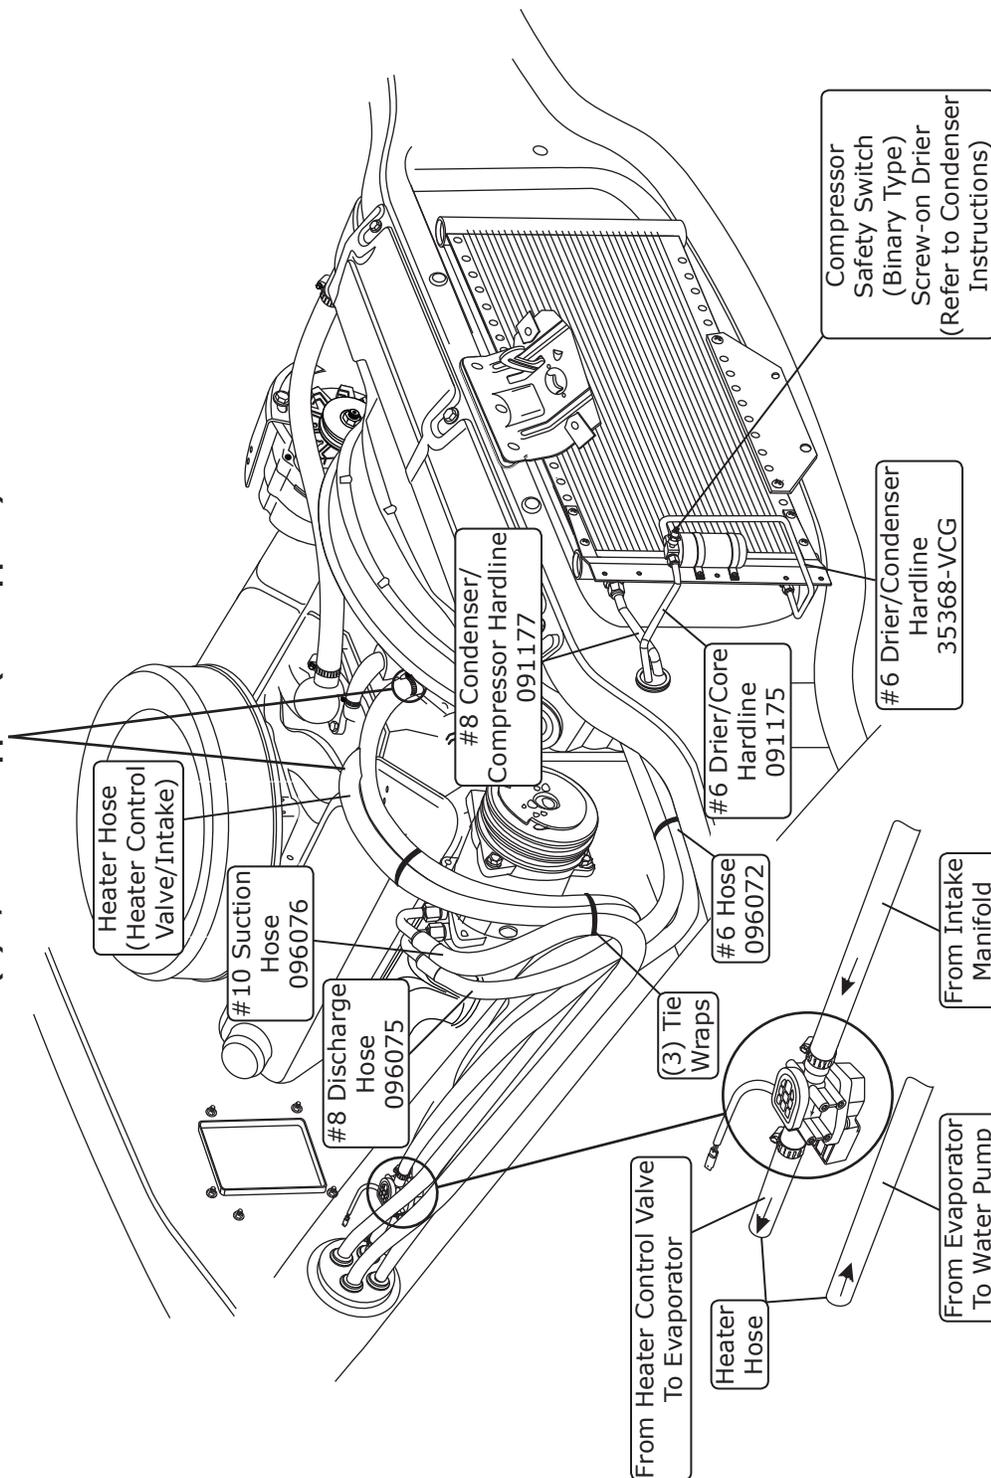
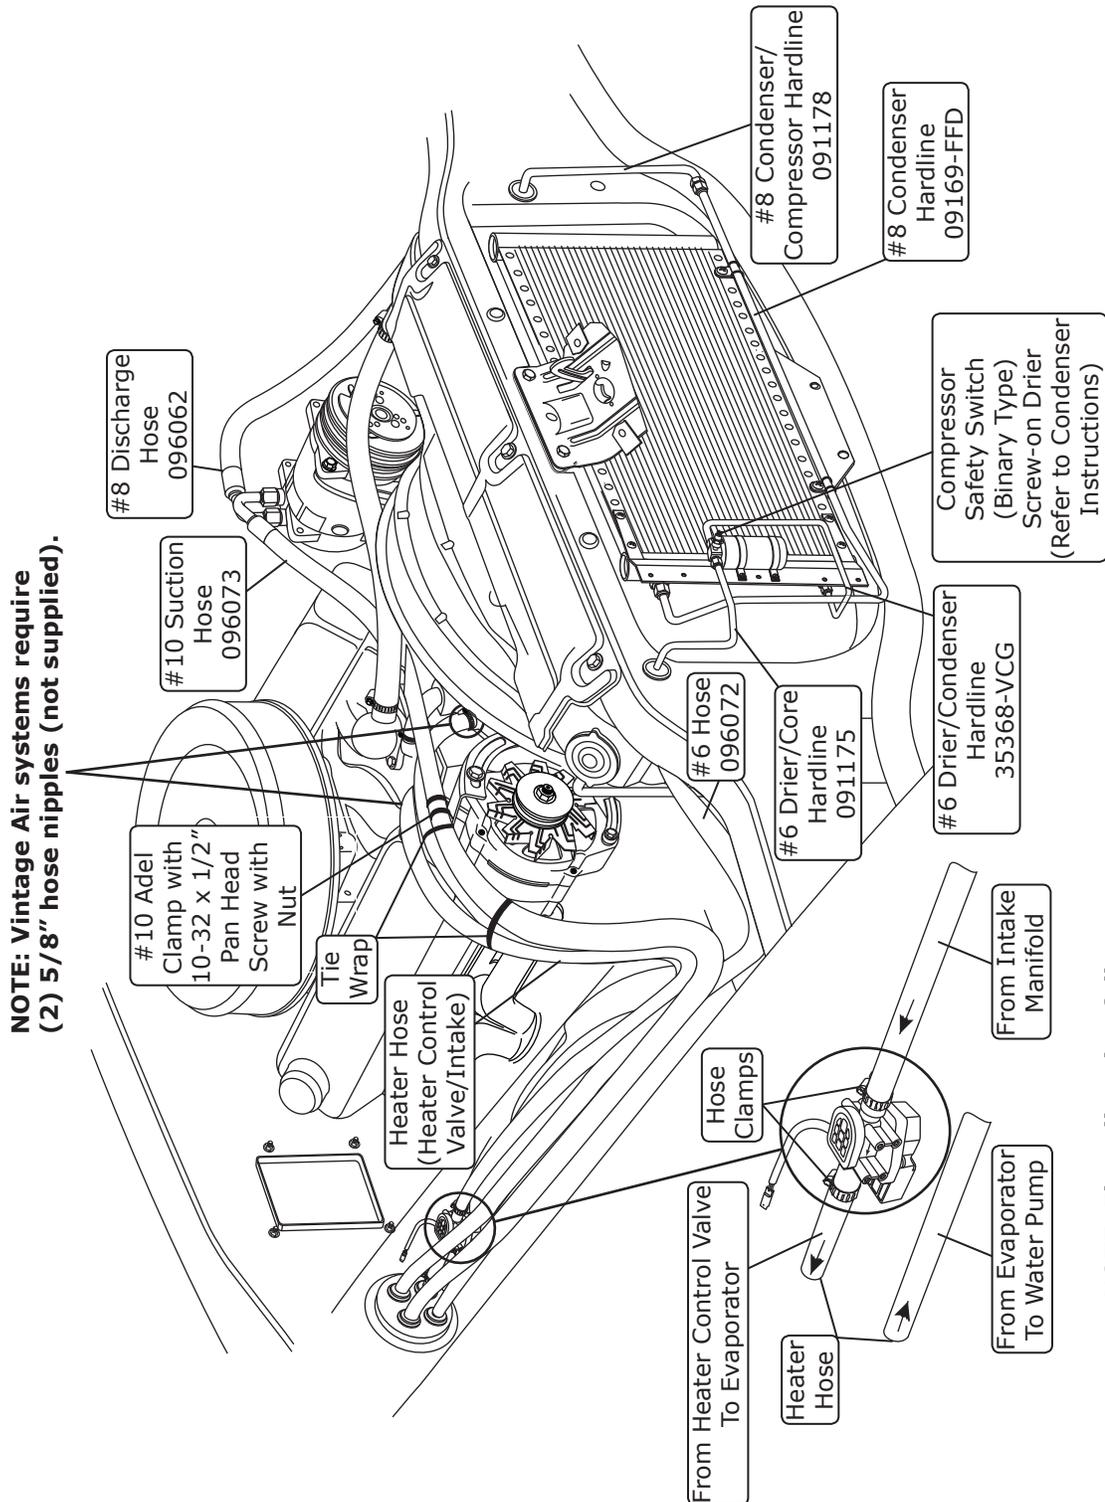

Figure 16
Figure 16a
1. Locate the #8 compressor A/C hose. Lubricate (2) #8 O-rings (See Figure 15, above) and connect the 135° female fitting with 134a service port to the #8 discharge port on the compressor. Then route the straight female fitting to the #8 condenser hardline coming through the core support (See Figure 16, Page 15, and Figure 16a, Page 16). Tighten each fitting connection as shown in Figure 15, above.
2. Locate the #10 compressor A/C hose. Lubricate (2) #10 O-rings (See Figure 15, above) and connect the #10 135° female fitting with 134a service port to the #10 suction port on the compressor. Then route the 90° female fitting to the #10 fitting on the evaporator (See Figure 11, Page 12, Figure 16, Page 15, and Figure 16a, Page 16). Tighten each fitting connection as shown in Figure 15, above.
3. Locate the #6 evaporator A/C hose. Lubricate (2) #6 O-rings (See Figure 15, above) and connect the straight female fitting to the #6 hardline coming through the core support from the drier. Then route the 90° female fitting to the #6 fitting on the evaporator (See Figure 11, Page 12, Figure 16, Page 15, and Figure 16a, Page 16). Tighten each fitting connection as shown in Figure 15, above.
1. Route a piece of heater hose from the water pump to the top heater fitting of heater core as shown in Figure 11, Page 12, and Figure 16, below. Secure using hose clamps.
2. Route a piece of heater hose from the intake to the bottom heater fitting of the heater core as shown in Figure 11, Page 12, and Figure 16, below. **NOTE: Install heater control valve in line with intake manifold (pressure side) heater hose. Secure using hose clamps as shown in Figure 16, below. Also note proper flow direction.**
1. Route a piece of heater hose from the water pump to the top heater fitting of heater core as shown in Figure 11, Page 12, and Figure 16a, below. Secure using hose clamps.
2. Route a piece of heater hose from the intake to the bottom heater fitting of the heater core as shown in Figure 11, Page 12, and Figure 16a, below. **NOTE: Install heater control valve in line with intake manifold (pressure side) heater hose. Secure using hose clamps as shown in Figure 16a, below. Also note proper flow direction.**